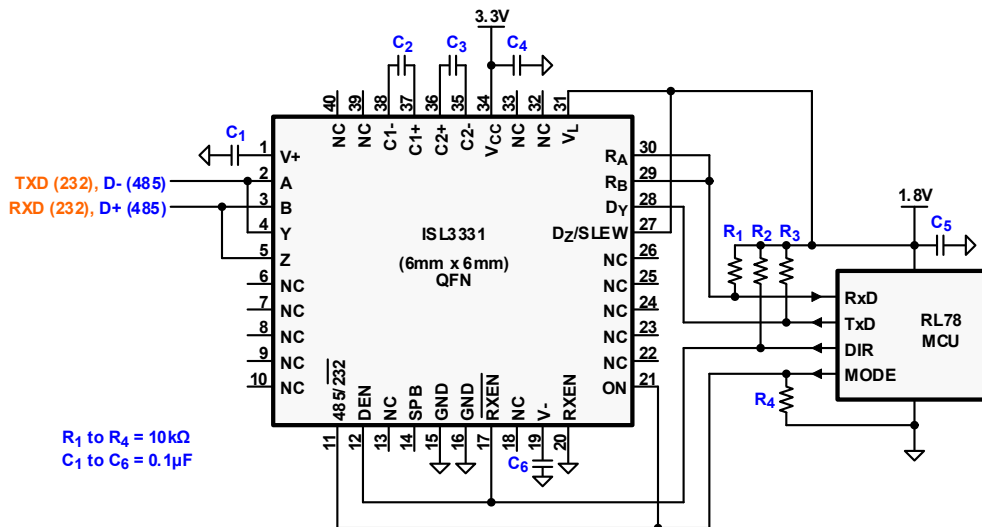

Figure 5. Half-Duplex Configuration for the ISL3331
- $V_L$  is used to interface the ISL3331 to UARTs or microcontrollers that are powered by a supply voltage lower than 3.3V. Tying  $V_L$  to the lower supply voltage shifts the input thresholds and output voltages of the logic pins to values compatible with the lower supply (Figure 5).